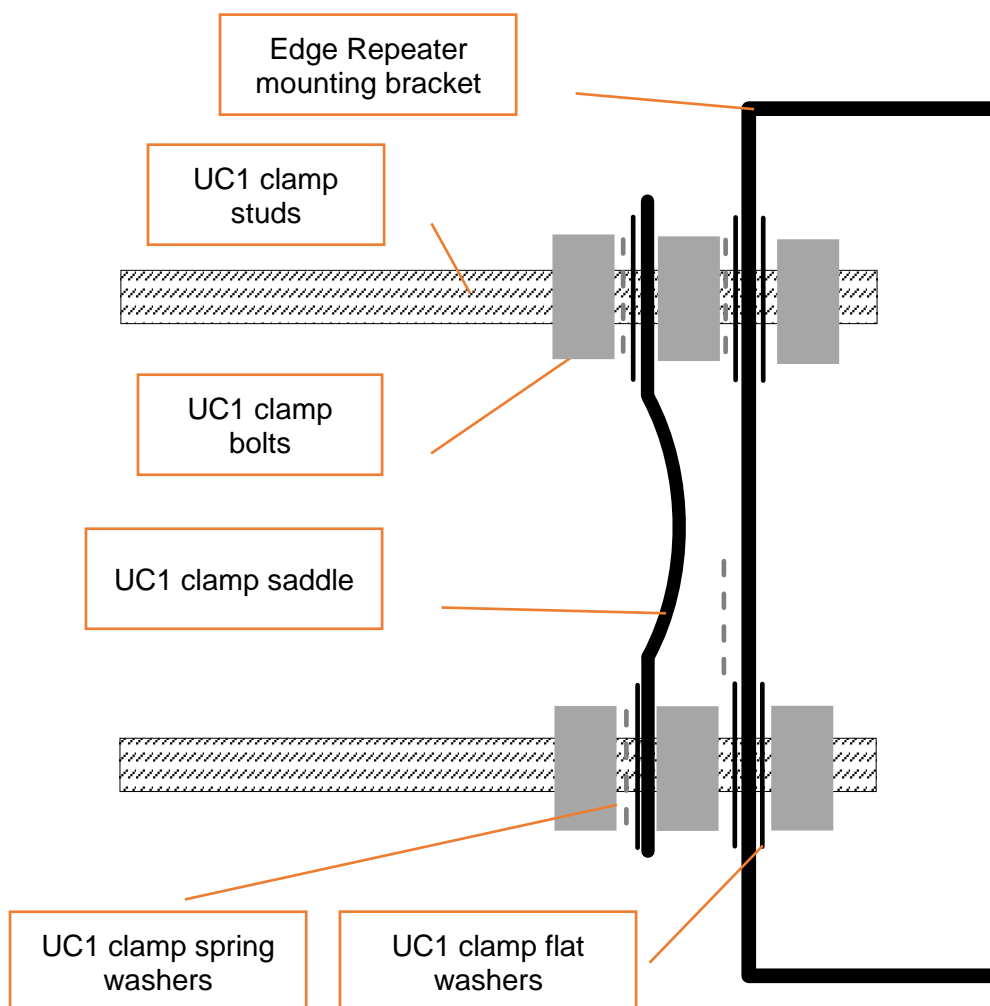

Figure 4: Plan view, Pole mount assembly step 0.
- 4.3.2 Attach one of the Edge Repeater's mounting brackets to one of the UC1 pole-mount clamps using the clamp's components shown in Figure 4. Tighten the M12 bolts to a torque of 30 Nm;